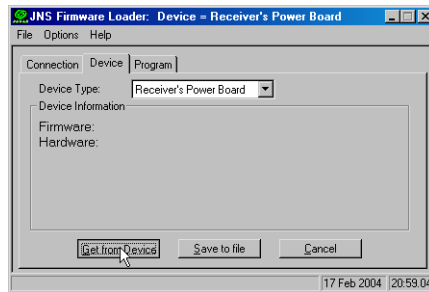

Figure 4-18. Program Tab Settings
- 13.** Select the **Program** tab and set the Capture Method to Soft Break Capture (recommended) (Figure 4-18).
- 14.** Browse for and select the Power board's RAM file (Figure 4-18).